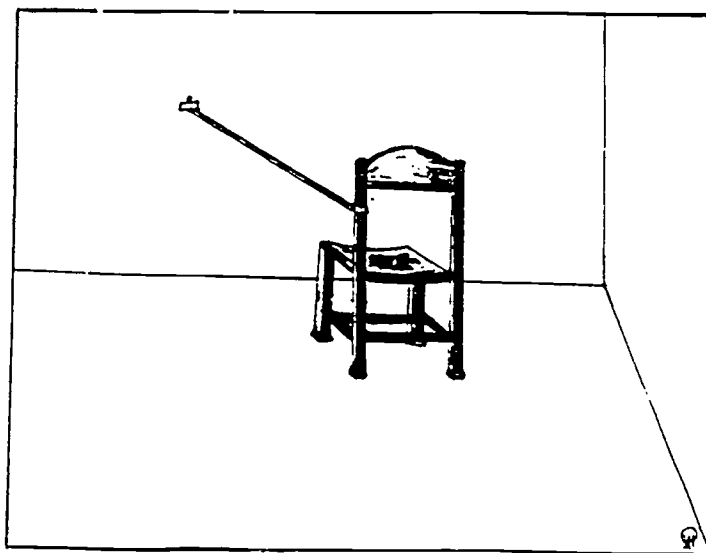

Fig. 30
5. String the fishing line across the room as shown in fig. 30.